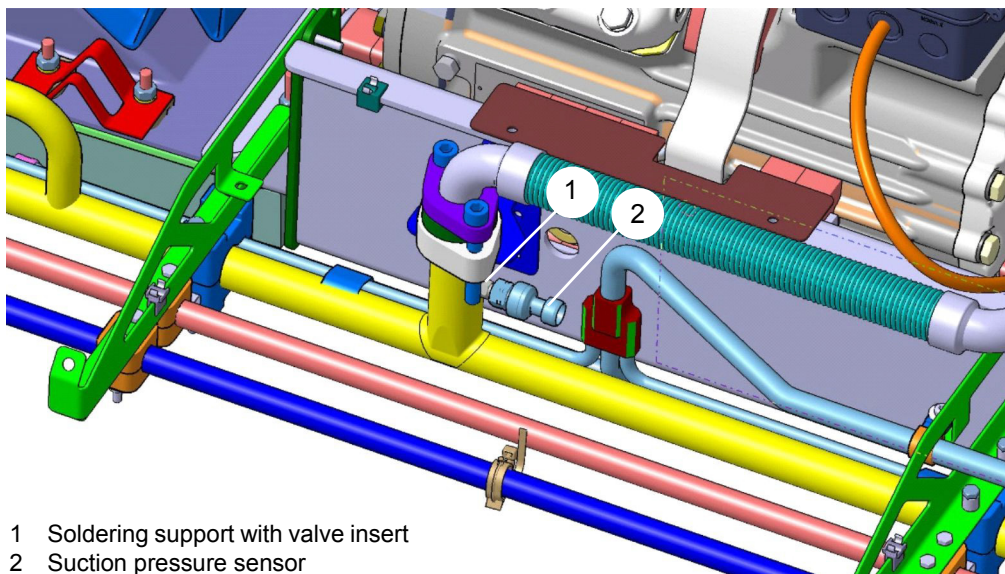

Fig. 908
Position: on refrigerant tube of the condenser receiver (directly to the left connection, see Fig. 908).
- Position temperature sensor on the tube (A, Fig. 908) and attach with 2 cable clamps (B, Fig. 908).
The imprint at the top of the temperature sensor **must** be pointing upwards. The top is located at the bend in the tube, approximately, see Fig. 908.
- Attach temperature sensor with cork insulating tape (C, Fig. 908).